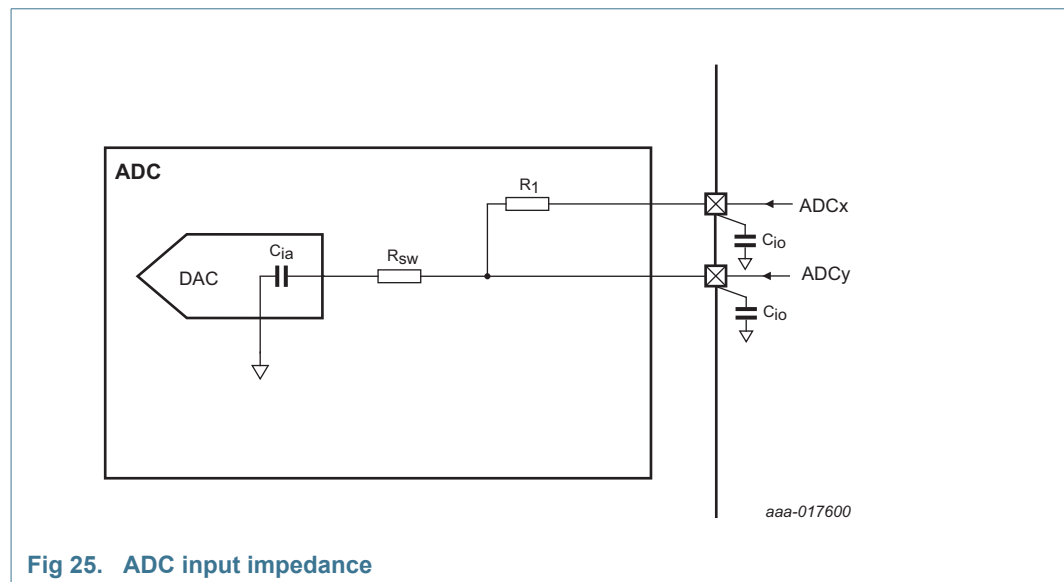

Fig 25. ADC input impedance
- [10] Input impedance Z_i is inversely proportional to the sampling frequency and the total input capacity including C_{ia} and C_{io} : $Z_i \propto 1 / (f_s \times C_i)$. See Table 16 for C_{io} . See Figure 25.
Figure 25 shows the ADC input impedance. In this figure: